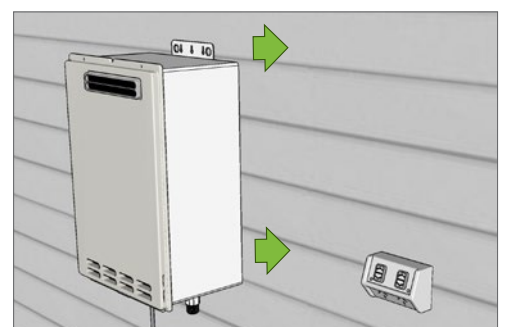

Fig 14
2. Fix the booster to the wall as per the manufacturer manual (fig 14)